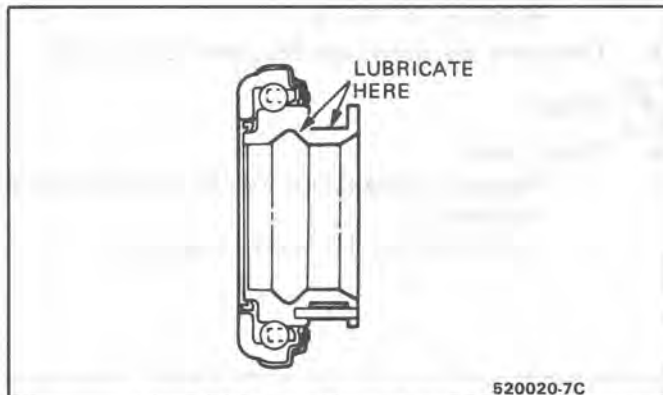

Fig. 11 Release Bearing Lubrication
3. Lightly lubricate the O.D. groove and completely pack full the I.D. recess of the release bearing, as shown in Figure 11 with P/N 1051344 or equivalent.